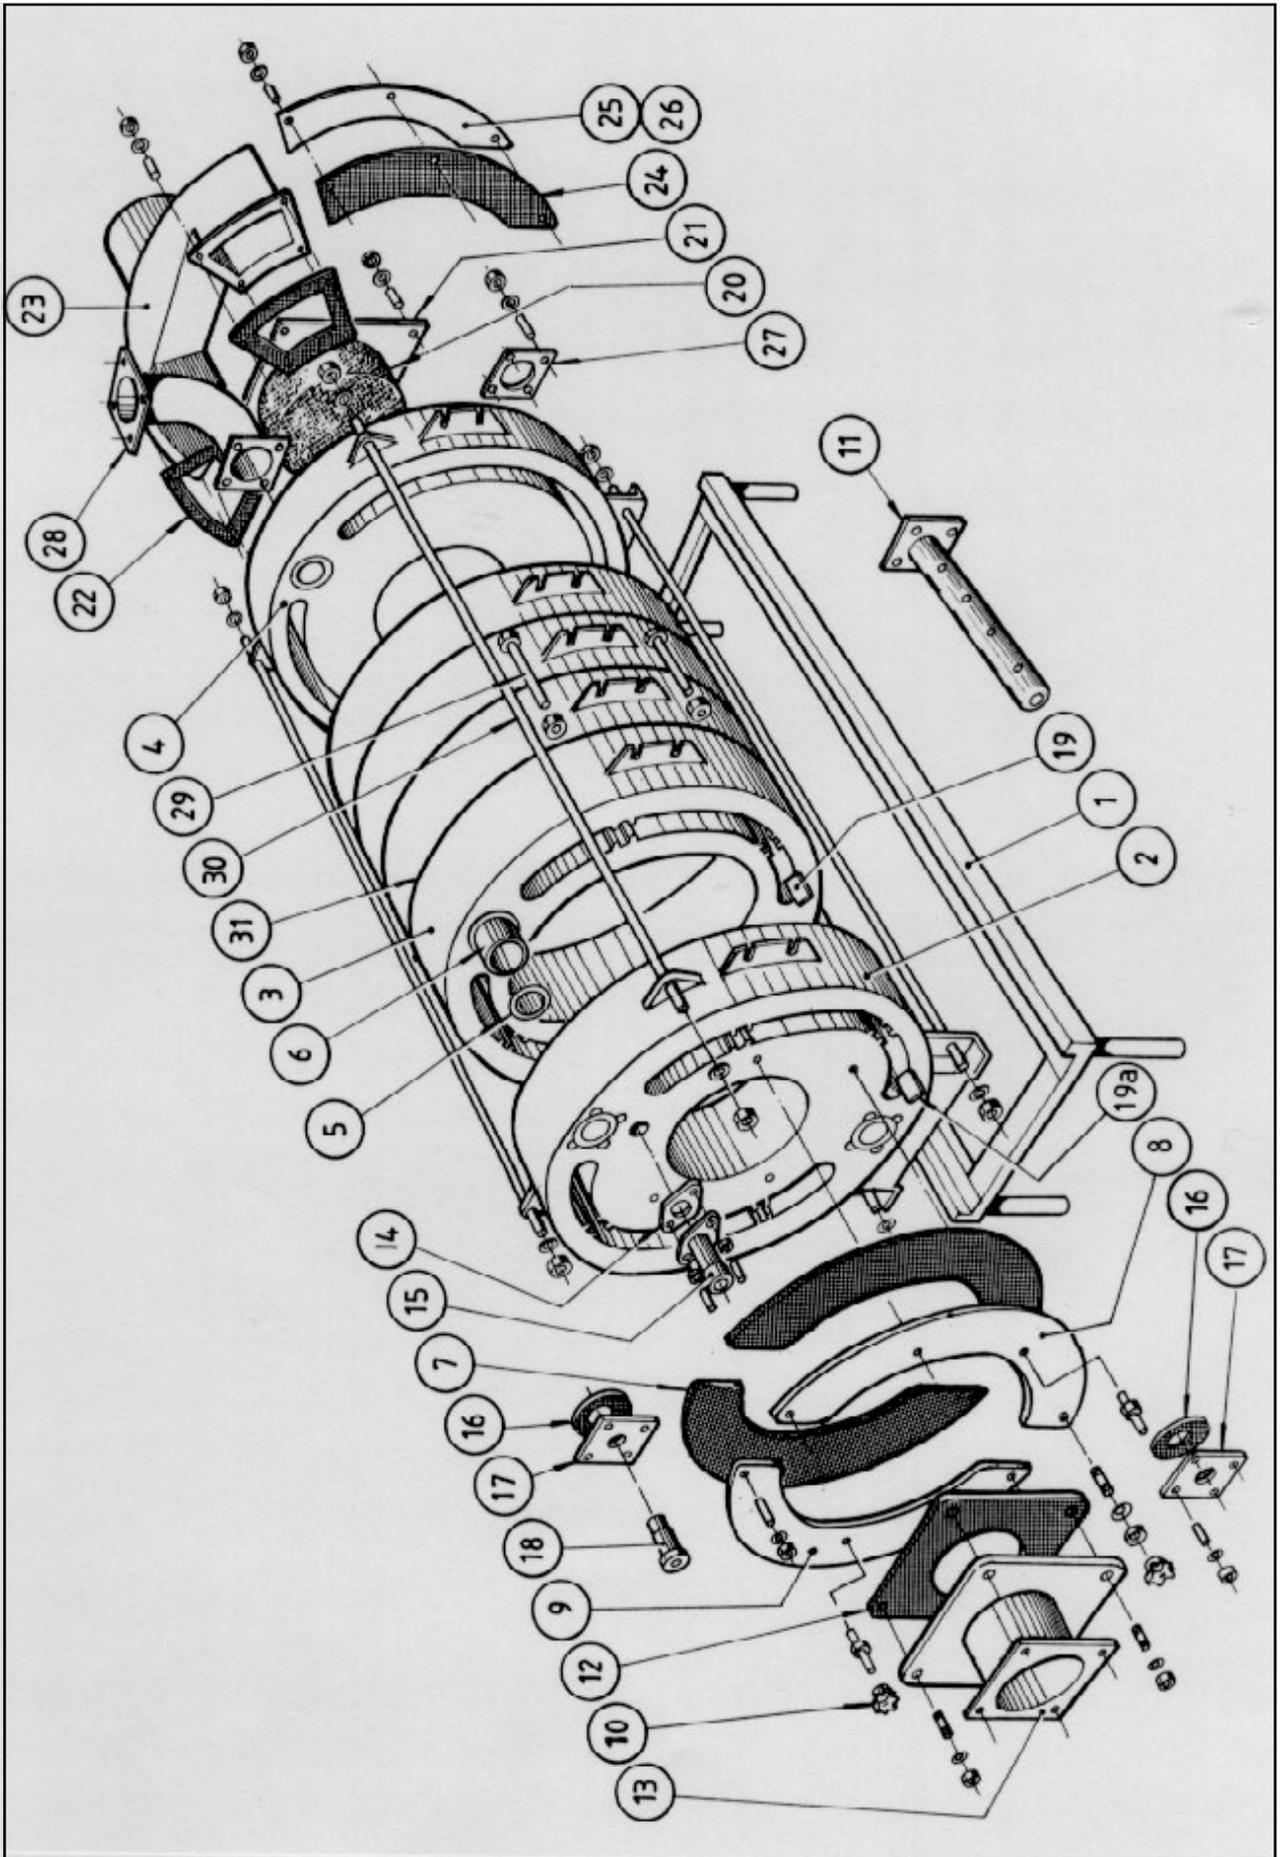

Figure 15.1 – Exploded View of Boiler
15.1 Boiler Spares (refer to Fig. 15.1)